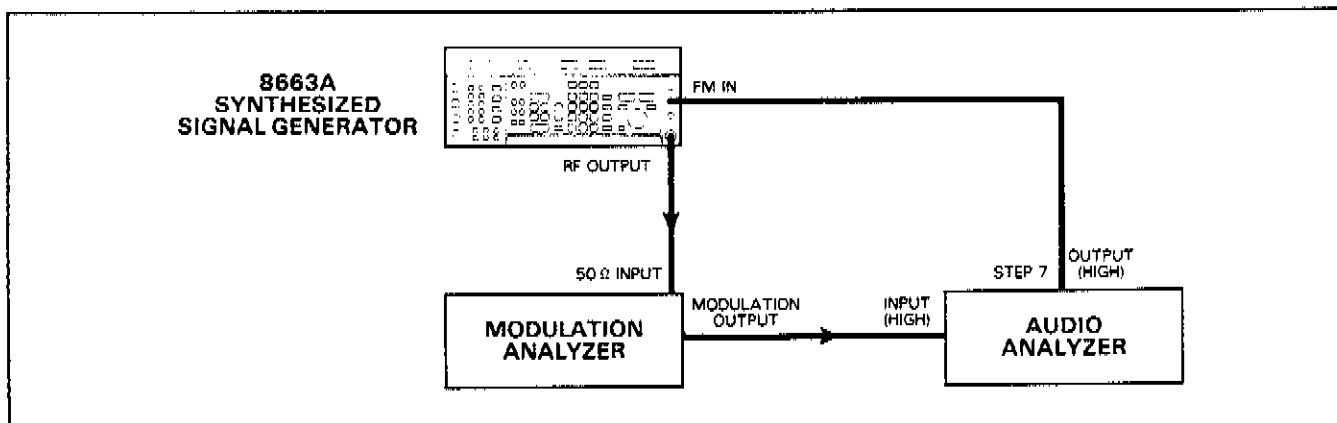

Figure 4-3. AM and FM Test Setup
- Connect the instruments as shown in Figure 4-3 and apply power. Set the Generator's output amplitude to +10.0 dBm. Set the Modulation Analyzer as follows:
7. Connect the instruments as shown in Figure 4-3. Set the Generator to 100.0 MHz, 100 kHz FM deviation and EXT AC source. Set the Audio Analyzer's output frequency to 1 kHz. Adjust the output level of the Audio Analyzer for approximately 1.49V or until the EXT MOD HI/LO indicators on the signal generator go out. Set the modulation analyzer to measure FM with all filters off. The measured distortion should be less than 1.0%.